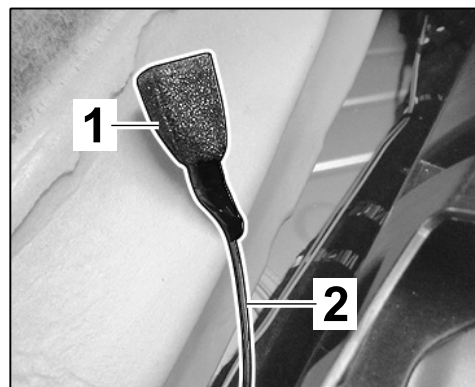

Figure 12
- 2.3.5 Secure anti-rattle element ⇒ *Figure 12 -1-* to the wire harness ⇒ *Figure 12 -2-* with wrapping tape/insulating tape.